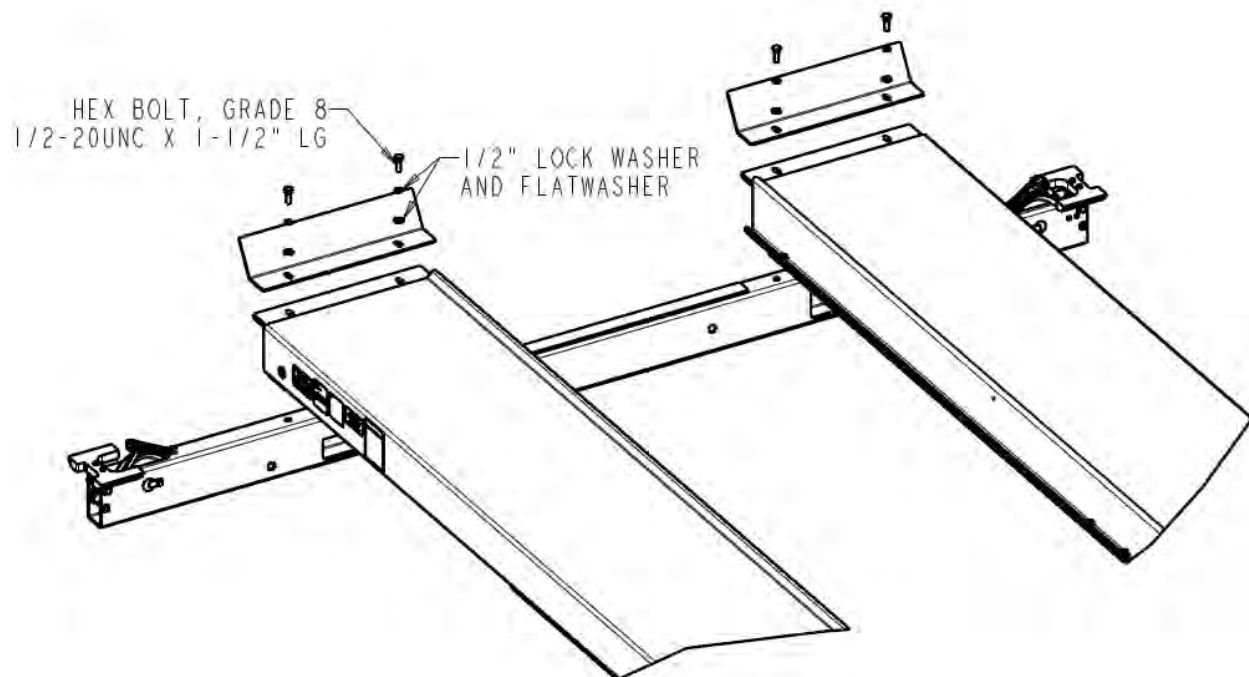

Figure 9a: Front Crossmember Installation
7. Align the wheelstops and bolt to runways and crossmember. **See Figure 9a.**